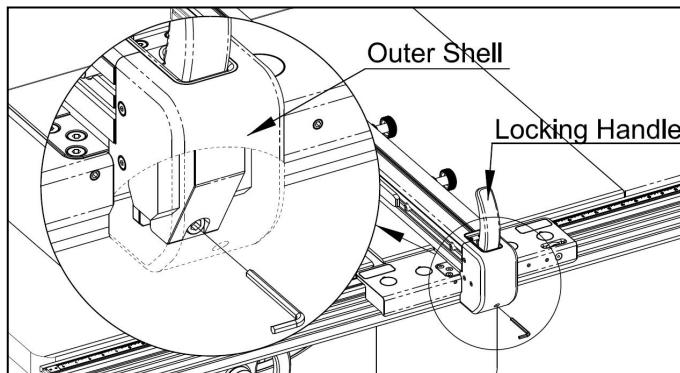

Fig. 6-23
5. Fine-tuning the Front Locking Force: As shown in Fig. 6-23, raise the Locking Handle and use a 6mm hex wrench to adjust the screw located within the outer shell. Begin by loosening the screw fully in a counterclockwise direction, then turn it clockwise until you feel noticeable resistance. To complete the adjustment, rotate the wrench approximately 60 degrees (1/6th of a rotation) counterclockwise.